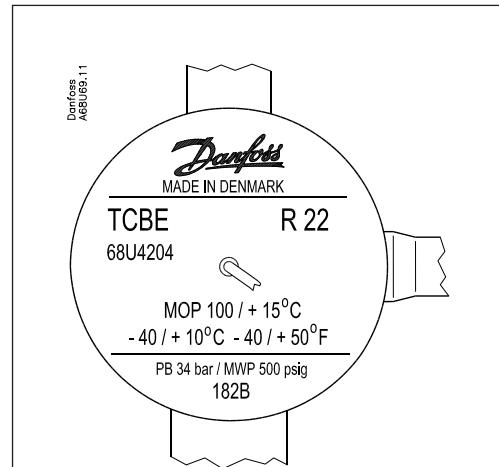
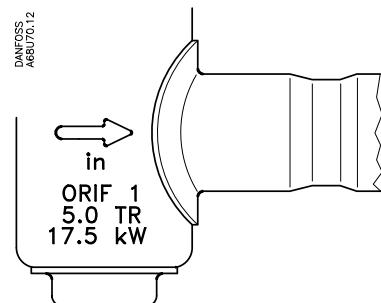

Fig. 1 Power element
Fig. 2 Valve body
Main valve data is given on the element (fig. 1) or on the valve body (fig. 2), or on the orifice assembly (fig. 3)
**Main valve data example, fig. 1**
**Main valve data example, fig. 2**